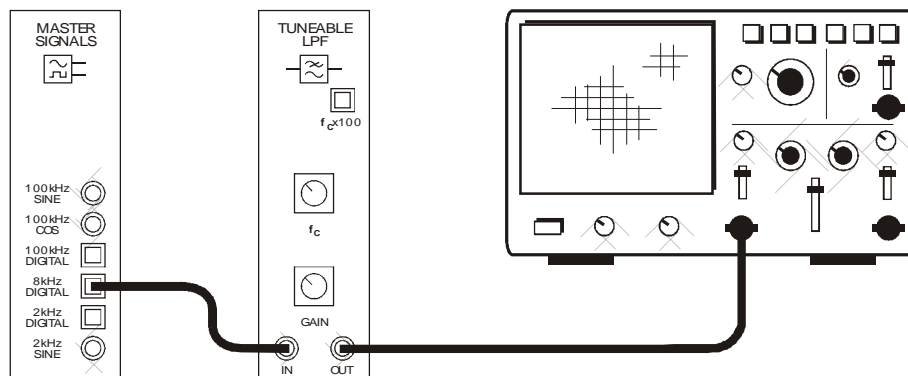

Figure 3
4. Connect the set-up shown in Figure 3 below.